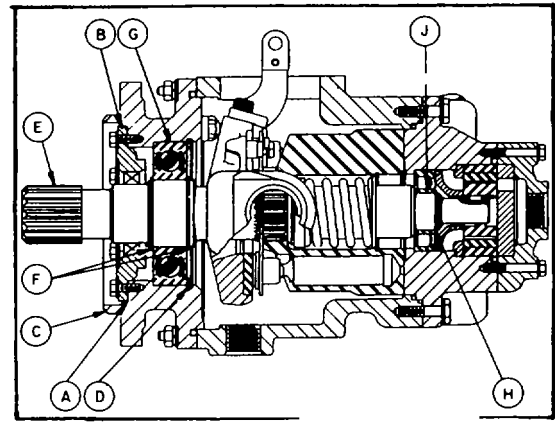

Figure 128.
In the absence of the O ring and groove, remove retainer gasket (A) from retainer (B) or flange (C). See Fig. 128.
On units with an 8 inch square flange (pre Phase III) the shaft is removed from the back of the flange. See Fig. 128.
On units with an 8 inch square flange, the shaft assembly is installed through the back face of the flange. See Fig. 128.
In the absence of square ring shoulder, place new gasket (A) over pump shaft (E) and proceed as in Step (6). See Fig. 128.